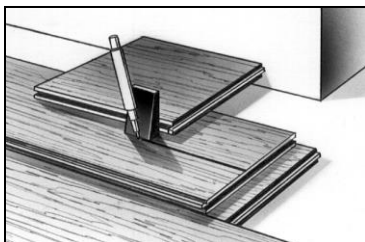

Fig. 17
2. Place the row of planks to be fit on top of the last row of installed planks. Use a divider or a piece of the plank as a scribe to trace the contour of the wall (**Fig. 17**).
3. Be sure to place a spacer between the marking pen and "scribe" piece of board. This adds the 1/4" (6.35 mm) to 1/2" (12.7 mm) space you need at the finish wall. (**Fig. 17**).